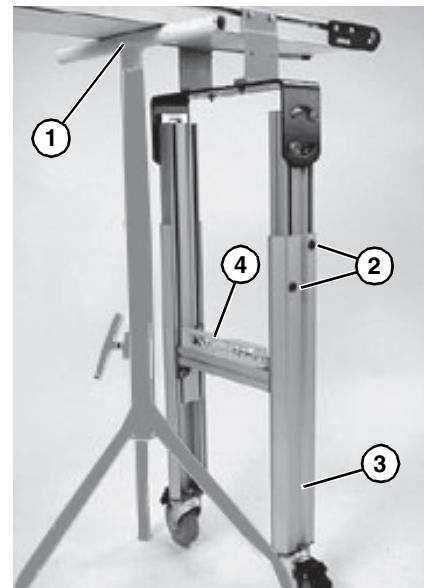

Figure 47
1. Using a support (**Figure 47, item 1**), raise conveyor and stand off the floor.
2. Loosen button screws (**Figure 47, item 2**).
3. Raise or lower stand leg (**Figure 47, item 3**) to the required height. Level stand from side to side using a level (**Figure 47, item 4**).
<p>Failure to secure screws (Figure 47, item 2) may cause conveyor sections to drop down causing severe injury.</p> <p>TIGHTEN SCREWS (Figure 47, item 2) AFTER ADJUSTMENT.</p>
4. Tighten button screws (**Figure 47, item 2**) to 150 in-lb (17 N-m).